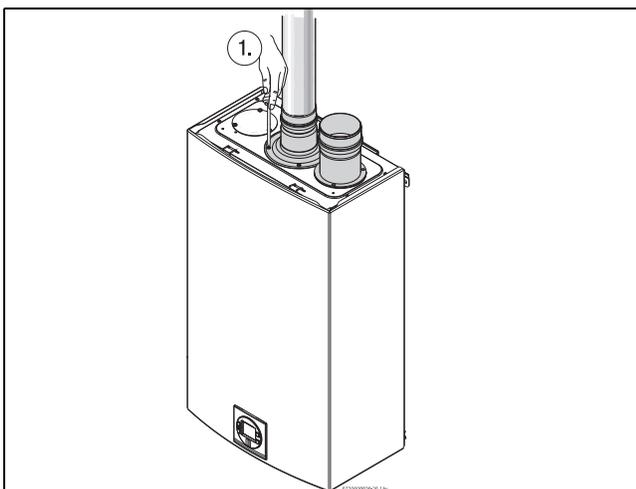

Fig. 16 Exhaust connection
- ▶ Attach the flue gas exhaust accessory to the top of the unit fig. 16 (position 1) using the 4 screws and gasket provided, and fully insert vent pipe into the accessory. If using 4" venting, a 3" to 4" increaser should be installed directly after this accessory.